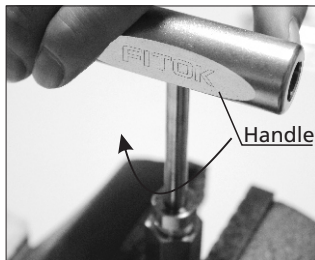

Fig. 3-6
6. Rotate the handle clockwise for 10 full circles. Tighten the orientation nut to the 5° mark and then rotate the handle clockwise for 25 full circles. (Fig. 3-6)